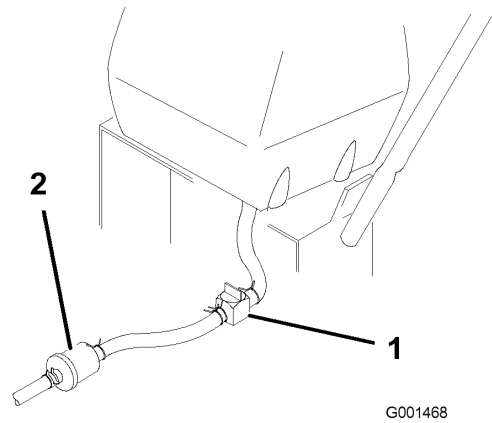

Figure 27
2. Close the fuel shut-off valve at the fuel tank (Figure 27).
3. Squeeze the ends of the hose clamp together and slide it up the fuel line away from fuel filter (Figure 27).
4. Pull the fuel line off the fuel filter (Figure 27). Open the fuel shut-off valve and allow the gasoline to drain into a gas can or drain pan.
3. Close fuel shut-off valve at the fuel tank (Figure 27).
7. Open fuel shut-off valve at fuel tank (Figure 27).